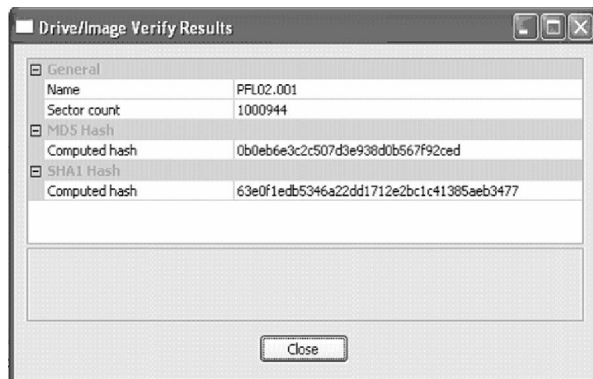

Figure 26 – Image Verify Results Screen
20. When the Verify process is finished, FTK™ will display the Image file names that were created as well as their MD5 and SHA-1 Hash Values. This data is also saved to a log file in the destination folder. See Figure 26 below.